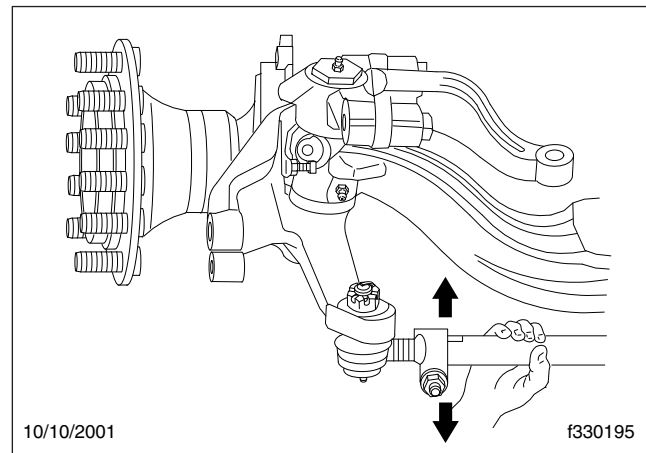

Fig. 8, Check Movement of Tie Rod End
5. Position yourself directly below the ball stud socket. Using both hands, grab the end as close to the socket as possible, no more than 6 inches (15.2 cm) from the end. Firmly apply about 100 pounds of hand pressure in an up and down motion several times. When moving the assembly, check for any movement at both tie rod ends. See Fig. 8.